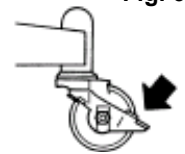

Fig. 6
- During machine operation or after completion of movement, be sure to lock the caster brake for locking. (Fig. 6)